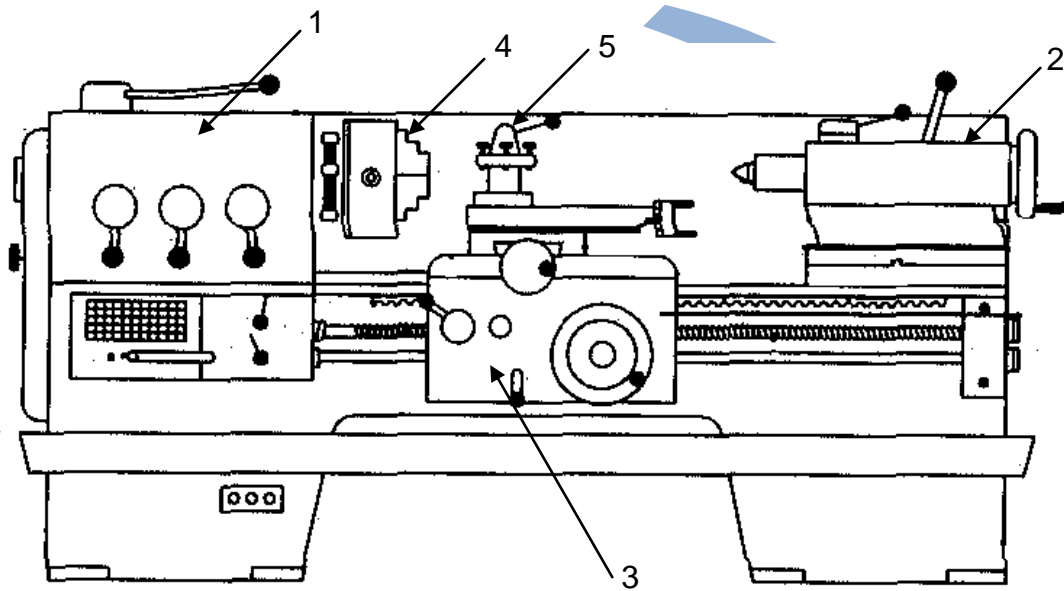

FIGURE 2
- 5.1 FIGURE 2 below shows a centre lathe. Label the main components of the lathe. Write the component number and component name in your ANSWER BOOK.